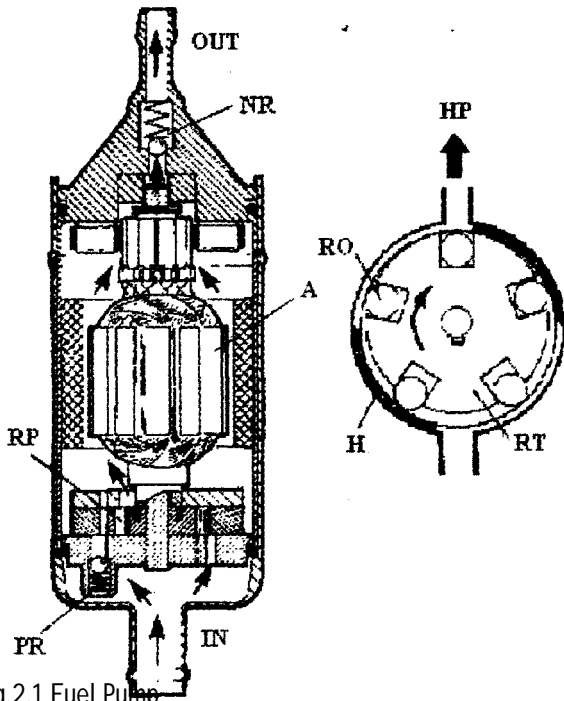

Fig.2.1 Fuel Pump
Fig.2.1 shows an eccentric rotor (RT) mounted on the armature shaft with rollers (RO) in pockets rotating within a housing (H). When the motor is energised centrifugal force acting on the rollers forces them outward to act as seals. The fuel between the rollers is forced to the high-pressure side of the system (HP).